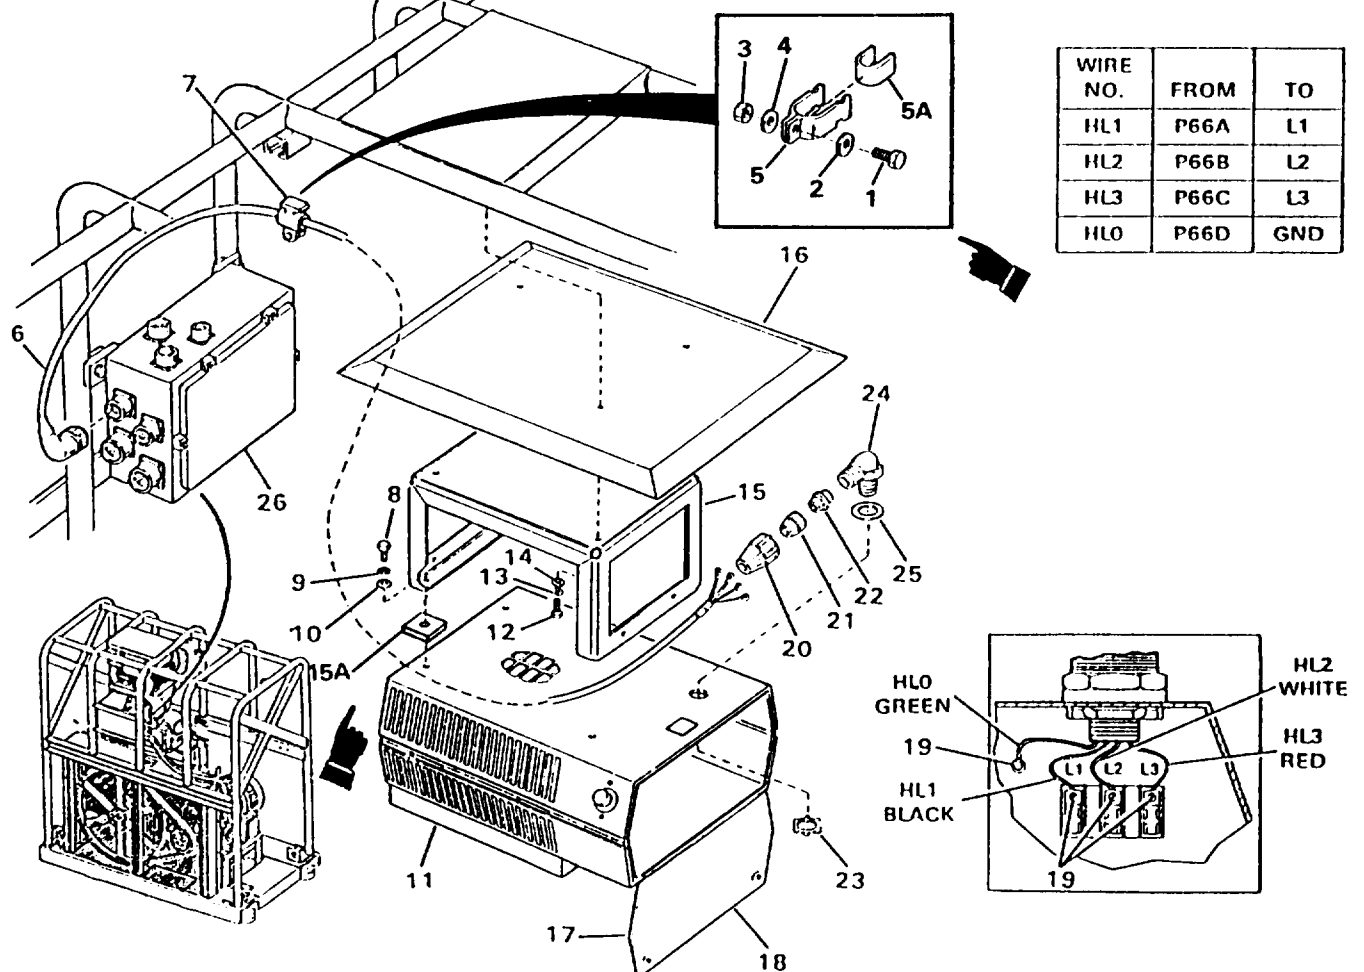

Figure 4-87. Electric Heater
- a. Refer to Figure 4-87 and disconnect heater cable (6) at MOV box (26).
- b. Remove capscrew (1), washer (2), nut (3), and washer (4). Remove cable and clamp (5) with cushion (5A).
- c. Remove four capscrews (8), lockwashers (9) and washers (10). Remove heater(11) and pad (1 5A).
- d. Remove four capscrews (12), lockwashers(13) and washers(14) and remove heater bracket (15) and cover (16).
- a. Turn cover fasteners (17) 90 degrees counterclockwise and open end cover (18) as shown.
- b. Tag and disconnect four cable (6) wires by loosening captive screws(19) as shown on the insert on Figure 4-87.
- c. Unscrew nut (20) and slide nut (20), retainer (21) and bushing (22) back on cable (6).
- d. Unscrew conduit nut (23) and remove elbow (24) and sealing ring (25) from heater(11).
- e. Pull cable (6) from the elbow (24) and slide nut (20), retainer (21) and bushing (22) off the cable.
- a. Replace cable (6) if damaged.
- a. Place sealing ring (25) on elbow (24) and secure with conduit nut (23).
- b. Slide nut (20), retainer (21) and bushing (22) on cable (6).
- c. Place the ends of cable (6) through elbow (24) into heater(11) and connect the cable wires with captive screws ( 19) in accordance with the tags placed during removal and as shown on the insert on Figure 4-87. It is not necessary to tape electrical connections. Spray or brush connections with varnish.
- d. Tighten nut (20) on elbow (24).
- e. Close cover (18) and secure with cover fasteners (17).
Be careful to mount cover and bracket as illustrated in Figure 4-87. It is possible to mount these items backwards.